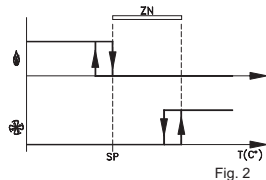

Fig. 2
According to the active stage, the green LED (1) is lit for 'Cooling' and the red LED (2) is lit for 'Heating'. The activation diagram is sketched in Fig. 2.